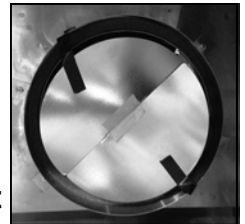

Fig. 3
6. Secure each support frame to the wooden hood support frame using (4) 6 x 70 mm lag bolts and washers. (NOT INCLUDED).
Remove the **BLACK (Figure 3)** tape that holds the damper blades closed. (It is NOT recommended to use two (2) dampers during installation. You have the option to use an external damper or use the existing damper already on our unit.)